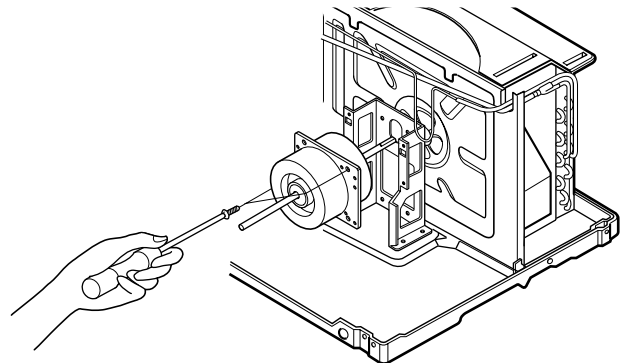

Figure 11
7. Remove the 2 screws which fasten the motor from the mount motor. (See Figure 11)
9. Re-install the components by referring to the removal procedure, above. (See Figure 11)